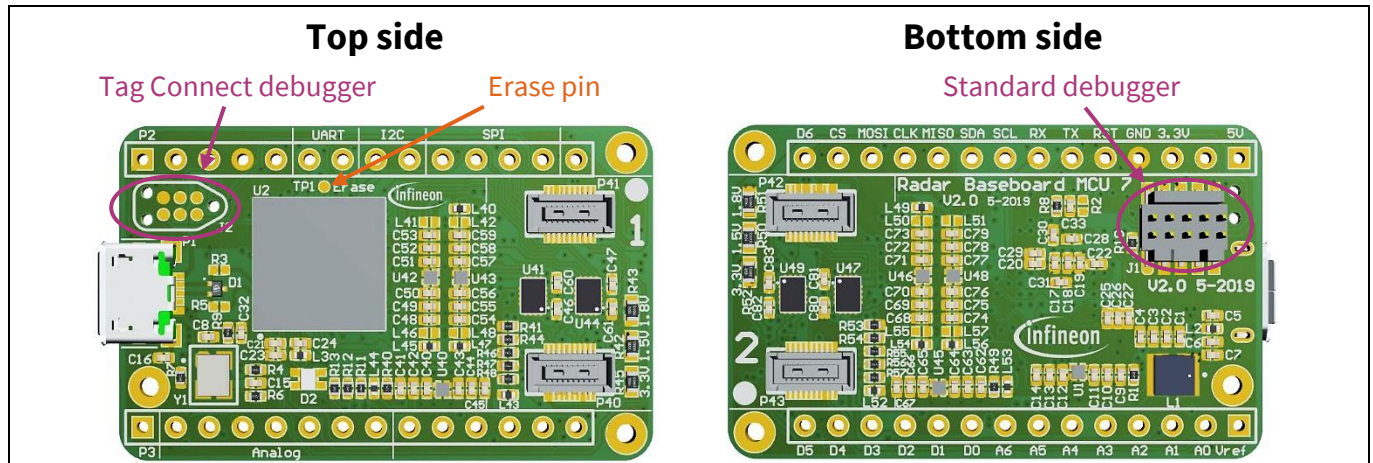

Figure 13 Debug connectors on the Radar Baseboard MCU7
If the user requires a debugger connector, the board features two options, as illustrated in Figure 13. On the top side of the Radar Baseboard MCU7, there is the layout for a Tag Connect debugger. If the user does not want to buy a Tag Connect debug cable, they can solder a normal 10-pin Arm debugging connector to the pads of component J1 on the bottom side of the Radar Baseboard MCU7.
- Hold the MCU ERASE pin to high by connecting TP1 to 3.3 V (see Figure 13).